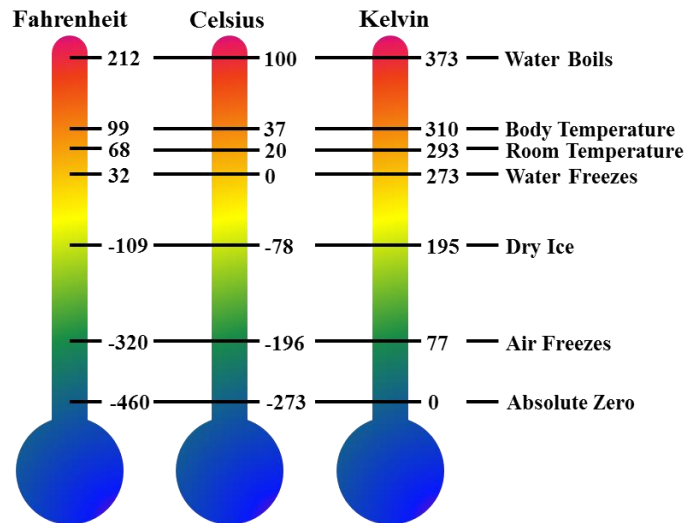

Figure 1. A visualization of how the three main temperature scales compare
*Discussion:* Kelvin is a temperature scale that can be related to Celsius through the equation:  $K = C + 273.15$ . Or to Fahrenheit using:  $K = (F + 459.67) * (5/9)$ . That means 93 K is  $-292^{\circ}\text{F}$ ! Zero Kelvin is called “absolute zero” and is the temperature at which the thermal motion of atoms stops. Try as we might, we cannot reach this temperature (the Third Law of Thermodynamics). Also, since 0 is placed at the bottom of the Kelvin scale, there are no negative temperatures. See Figure 1 for a comparison of the three most common temperature scales.